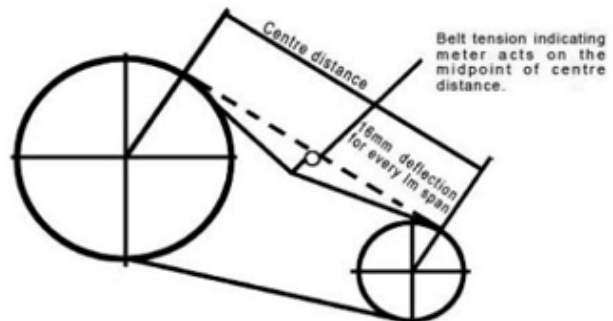

Figure 4.2 Criteria and Measurement Method for Belt Tension
- 2) After running for a week, the belt will be elongated slightly. So the belt tension shall be re-adjusted accordingly. For the measurement method and requirements for the belt tension, please see Figure 4.2. Belt tension shall be checked and adjusted based on checklist of Annex 1.